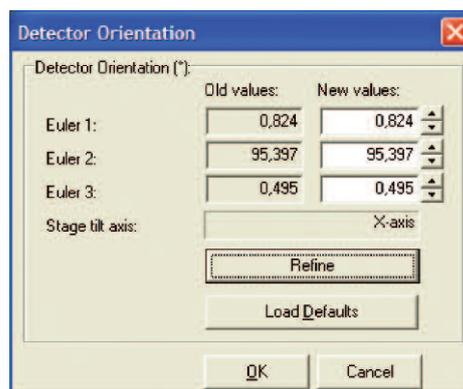

Figure 6. The Detector Orientation window.
7. Set the Detector (Phosphor) Orientation. Open up the Detector Orientation edit box by choosing **Calibration | Detector Orientation...** (Figure 6)